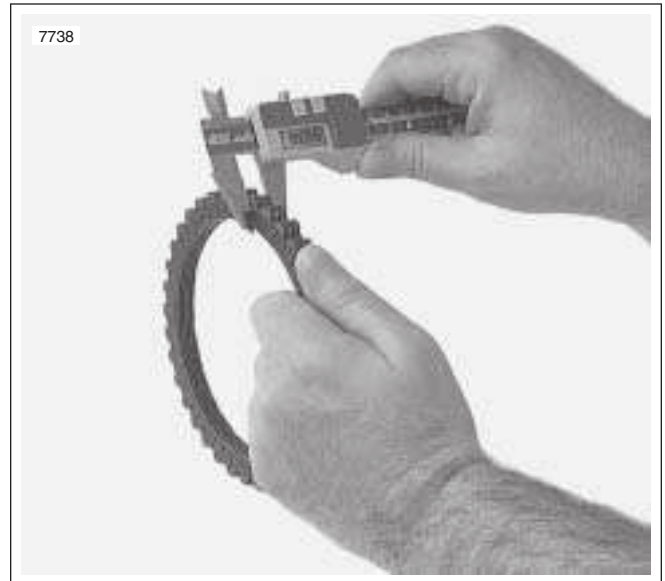

Figure 6-17. Measuring Friction Plates
5. See Figure 6-17. Check fiber plates for thickness.